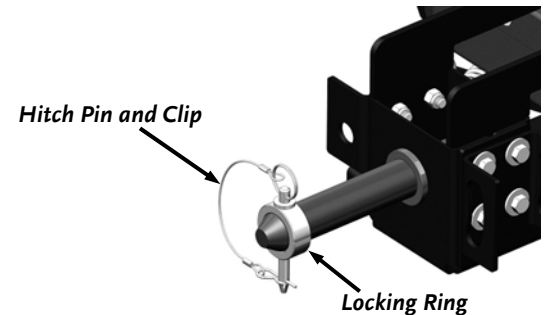

Figure 3
1. Remove the Hitch Pin with Clip from the Locking Ring and remove the Ring (**Figure 3**).